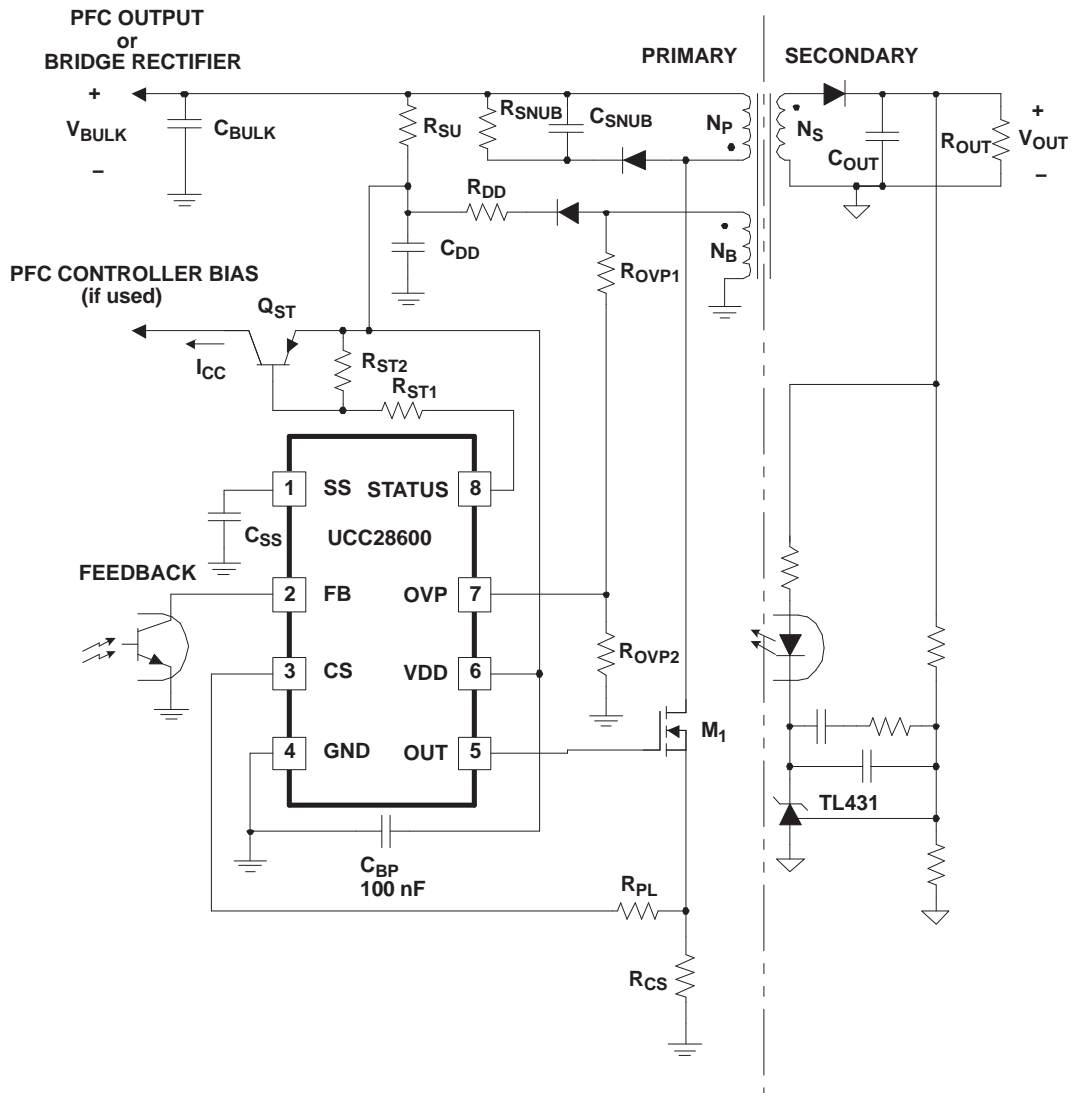

Figure 1. Pin Termination Schematic
- (1) Refer to Figure 1 for all reference designators in the Terminal Components Table.
(2) Refer to the Electrical Characteristics Table for constant parameters.
(3) Refer to the UCC28600 Design Calculator (TI Literature Number SLVC104) or laboratory measurements for currents, voltages and times in the operational circuit.
The UCC28600 has many protection features that are found only on larger, full featured controllers. Refer to the Block Diagram/Typical Application and Figures 1, 4, 5, 6 and 7 for detailed block descriptions that show how the features are integrated into the normal control functions.